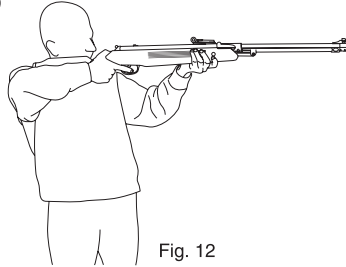

Fig. 12
- Sight in*, disengage safety and get ready for shooting. (Fig. 12)